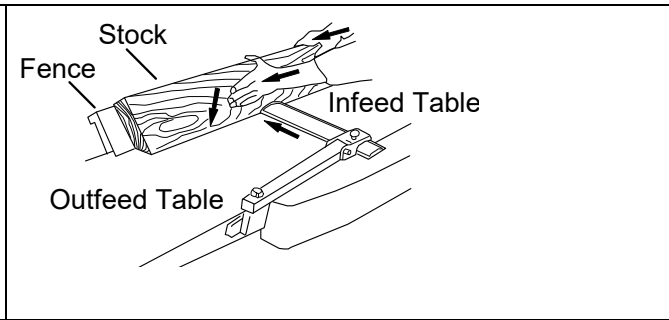

Figure 23 – Beveling
5. Feed the stock through the cutterhead, making sure the face of the stock is completely flat against the fence and the edge is making solid contact on the infeed and outfeed tables (Figure 23).